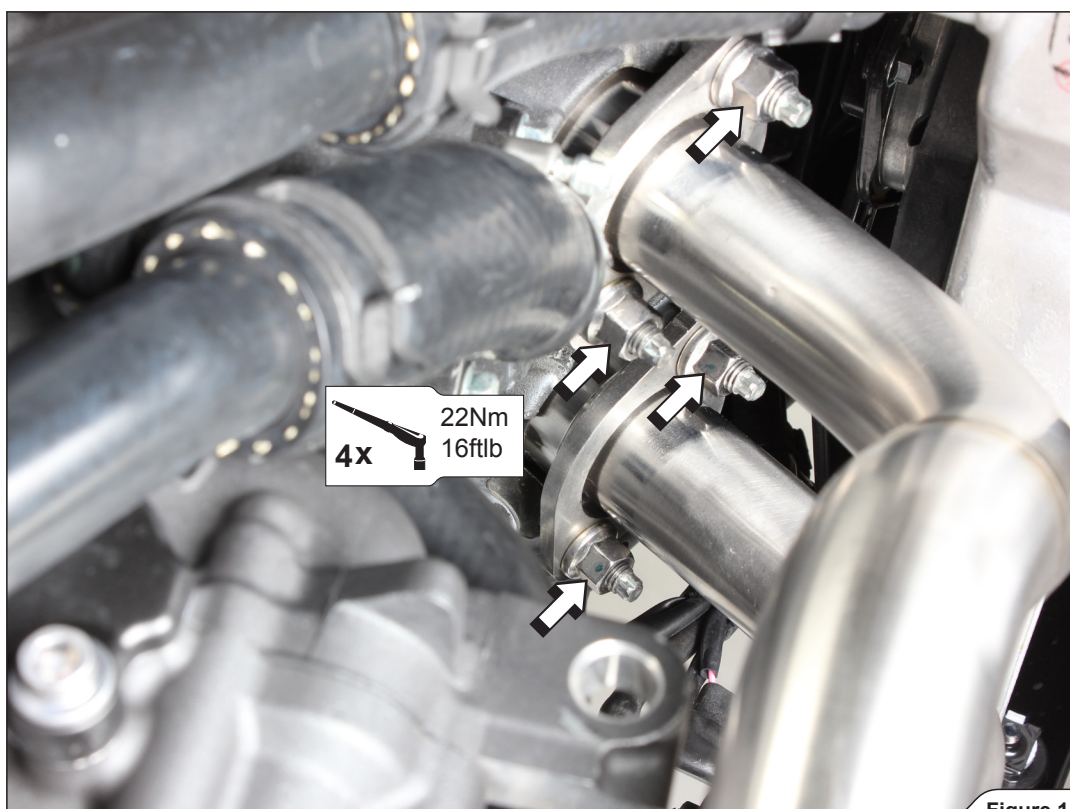

Figure 14
7. Tighten the header's flanges to specified torque (Figure 14).